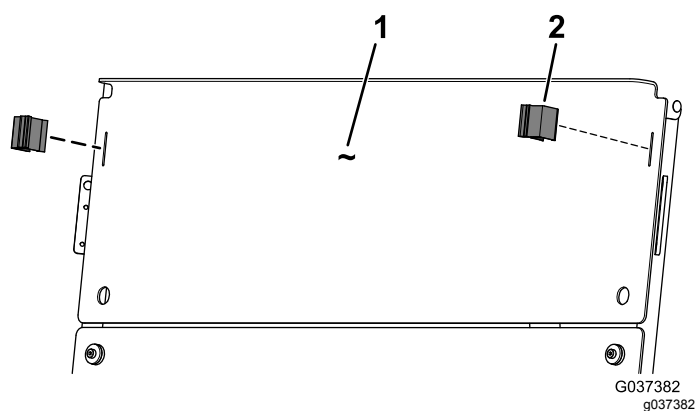

Figure 5
4. Secure the top windshield to the canopy tubes using the 2 receiver clips (Figure 5).